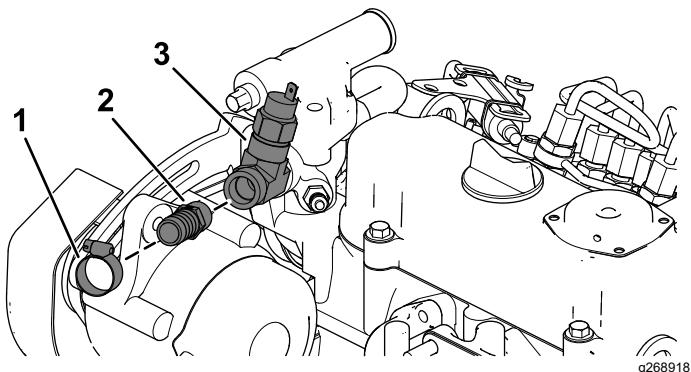

Figure 16
D. Install the hose (5/8 inch) and adapter fitting (5/8 inch) with hose clamps (Figure 16).